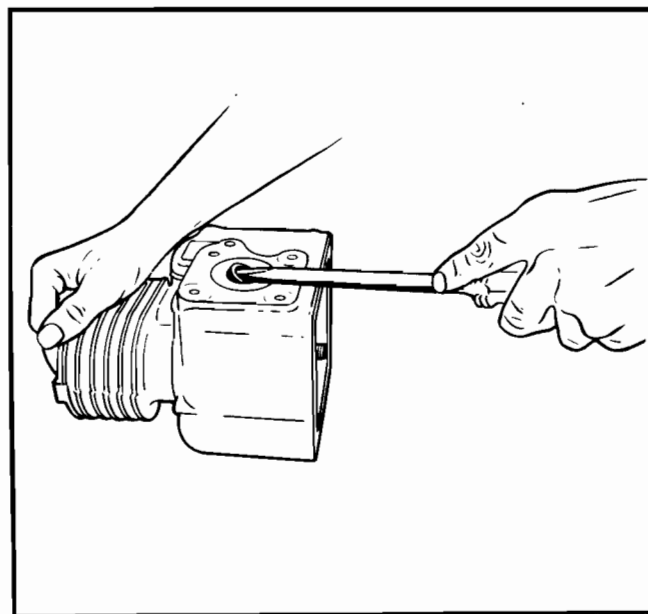

Figure No. 50—Removing Oil Seals
1. Remove the oil seals in the cylinder block and bearing plate by prying them out of their recesses with a screw-driver. (See Figure No. 50.) No special care is required, as these parts are to be replaced.